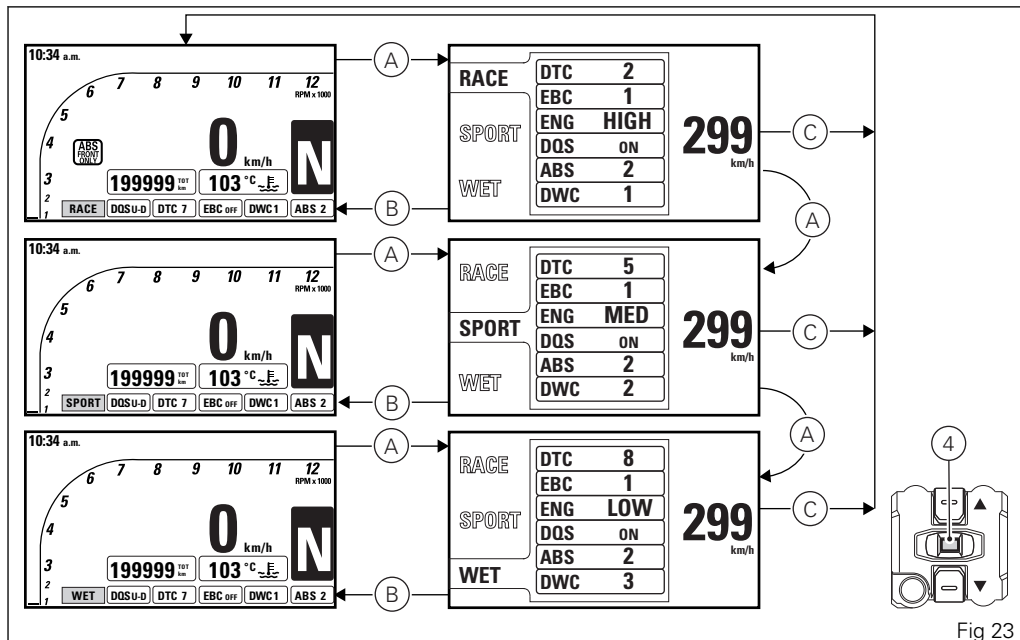

Fig 23
customized by the owner. Any time the CONFIRM MENU button (4) is pressed, you highlight a riding mode and the associated parameters are displayed (A, Fig 23).
Once the desired riding mode is highlighted, confirm the selection by holding down the CONFIRM MENU button (4) for 2 seconds: the new riding mode selection is saved and the Standard Screen is displayed (B, Fig 23).
Once the desired riding mode is highlighted, if the CONFIRM MENU button (4) is not pressed within 10 seconds, the new riding mode selection is not stored and the Standard Screen is displayed (C, Fig 23).